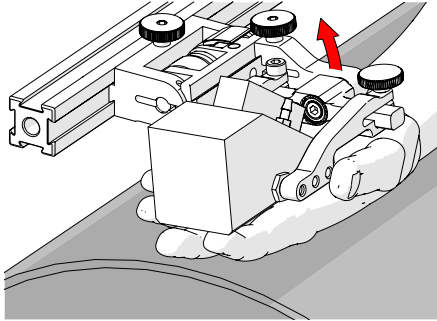

Fig. 158 - Lift to latched position
1. Ensure the probe holder is in the latched, upper position (Fig. 158). If the probe holder is already latched, it will only move within the slip joint adjustment range and have no spring tension.
1. Ensure the probe holder is in the upright latched position (Fig. 158).